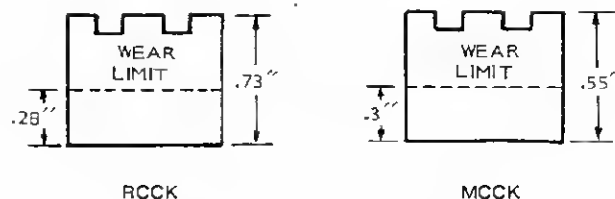

FIGURE 39. BRUSH WEAR LIMITS
**Inspection of Brushes:** When brushes are worn more than 0.3 inch, replace them. Figure 39 shows the wear limit. See that the brushes move smoothly in the brushholders.